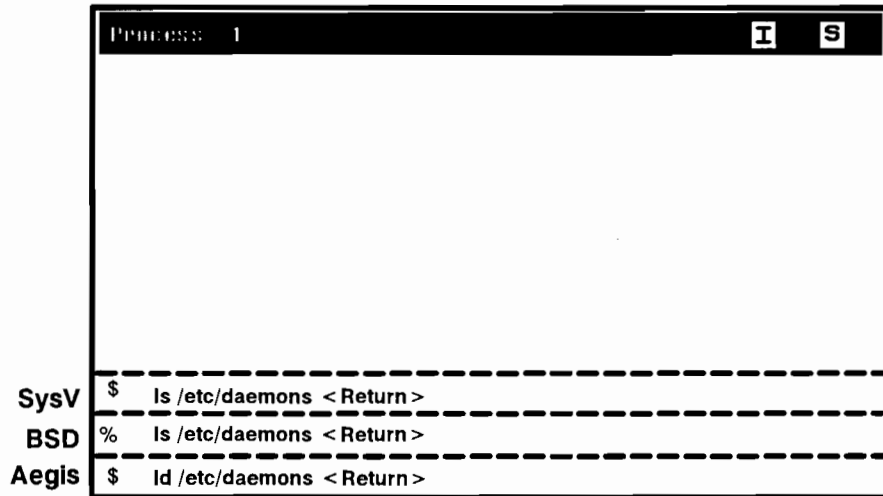

Figure 5-3. Checking the /etc/daemons Directory
3. Make sure that the **llbd** and **cdfsd** files exist in the **/etc/daemons** directory by entering the following command as shown in Figure 5-3: